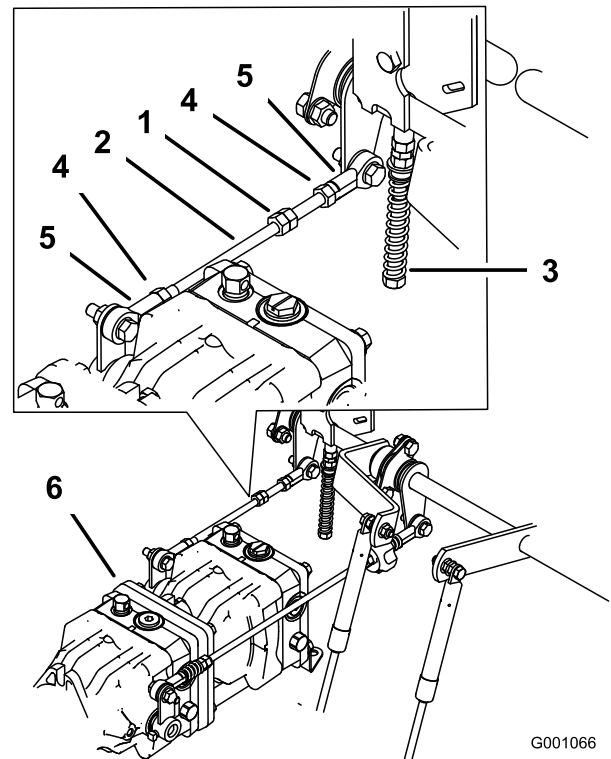

**Figure 90**
2. Adjust the pump rod length by rotating the knob, in the appropriate direction, until the wheel is still or slightly creeping in reverse (Figure 90).